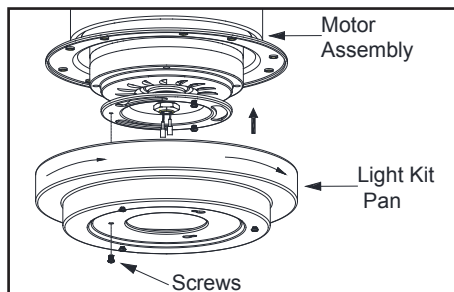

Figure 11
1. Remove one screw from the black bracket below fan motor assembly, loosen but do not remove the other two screws. (Figure 11)
2. Push the light kit pan up to the fan motor assembly so that the two loosened screw heads fit into the keyhole slots. Turn the light kit pan clockwise. Re-install the screw that was removed in step 1. Make sure all the screws are firmly tightened. (Figure 11)
The fan shipped from the factory with the reversing switch positioned to circulate air downward. If airflow is desired in the opposite direction, turn your fan off and wait for the blades to stop turning, then slide the reversing switch (located at the top of the motor housing, refer to figure 11 on page 5) to opposite position, and turn fan on again. The fan blades will turn in the opposite direction and reverse airflow.